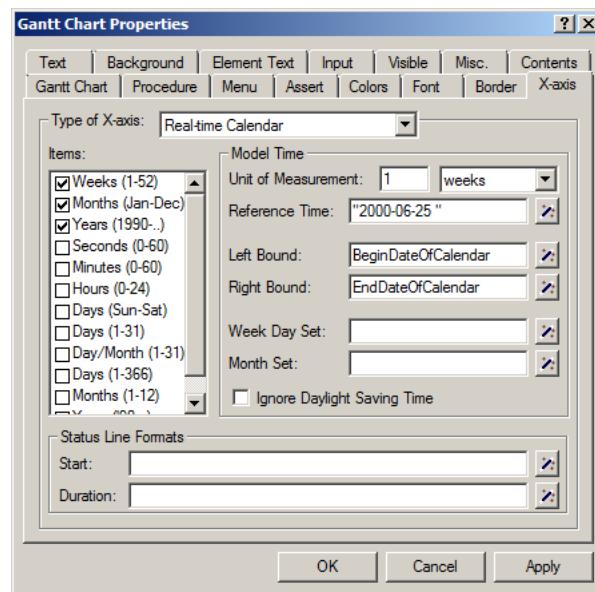

Figure 12.6: The X-axis tab of the **Gantt Chart Properties** dialog box
- ▶ check 'Weeks', 'Months' and 'Years' as in Figure 12.6,